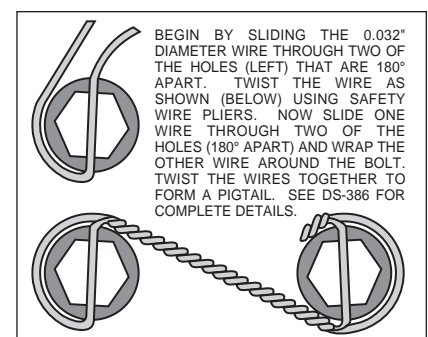

Figure 4. Safety Wire Diagram
- Slide the bracket kit assembly (1) onto the housing flange and then insert the axle assembly through the center hole of the bracket kit assembly (1). Secure using the stock Original Equipment Manufacturer (OEM) bolts and nuts. Stock OEM hex nuts that retain the bracket kit assembly (1) should be on the wheel side of the bracket. Apply red *Loctite*® 271 to the stock OEM bolt threads and torque to OEM specifications. Make sure the bracket kit assembly (1) brake pads are FACING OUTWARD TOWARDS THE WHEEL.
- With the larger I.D. side of the rotor (3) facing away from the hat (2), bolt rotor (3) to hat (2) through the backside of the rotor using washers (4) and bolts (5). Using an alternating sequence, apply red *Loctite*® 271 to the threads and torque bolts to 155 in-lb. For an added measure of security, the bolts may be safety wired using standard 0.032 inch diameter stainless steel safety wire as shown in Figure 4. Please refer to Wilwood's data sheet DS-386 (available at www.wilwood.com/Pdf/DataSheets/ds386.pdf) for complete safety wire installation instructions.
- Align the correct hole pattern in the hat (2) with the stud pattern on the axle flange. **NOTE:** Some OEM and aftermarket axles come with stud sizes larger than 0.50" diameter. Verify stud size and have a qualified machine shop drill the hats to the correct size, if necessary. Slide the hat/rotor assembly (2 and 3) over the wheel studs covering the bracket kit assembly (1) and against the axle flange face. Check to be sure the hat seats squarely against the hub. Install a couple of lug nuts (finger tighten) to keep the rotor/hat assembly in place while continuing with the installation.